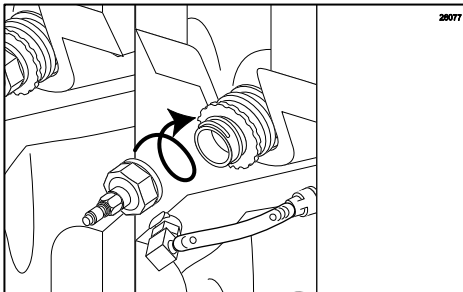

Figure 49
12. Attach the Syrup Bag Adapter to the bag fitment. (See Figure 49.)